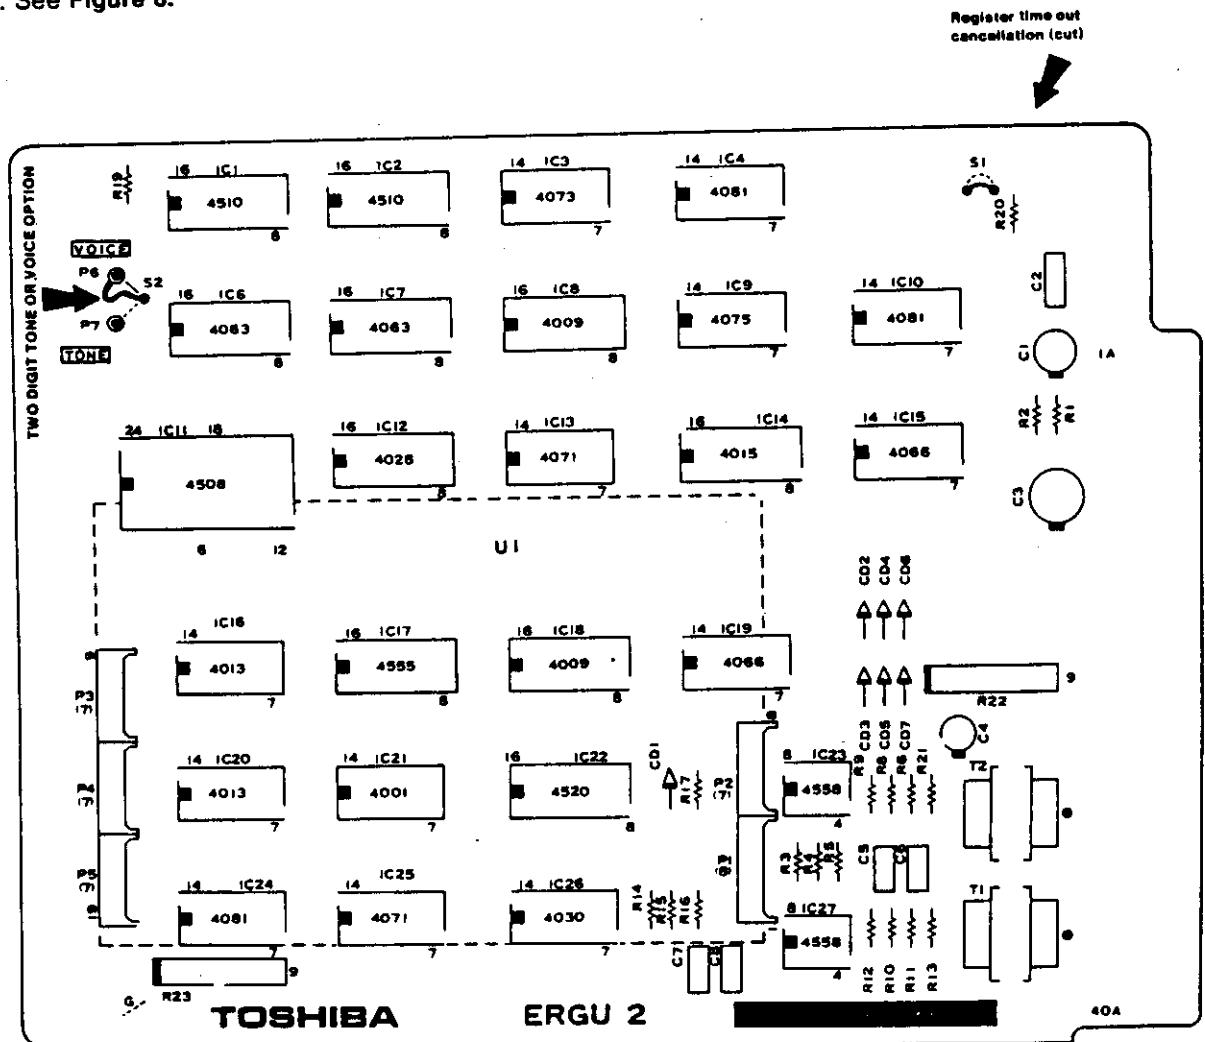

FIGURE 8 - ERGU-2 PCB - PHYSICAL LAYOUT
5.1.1.1 If the Handsfree Answerback time-out feature is to be eliminated, locate the (S1) strap on the ERGU PCB, before it is placed in the EKSU. See Figure 8.